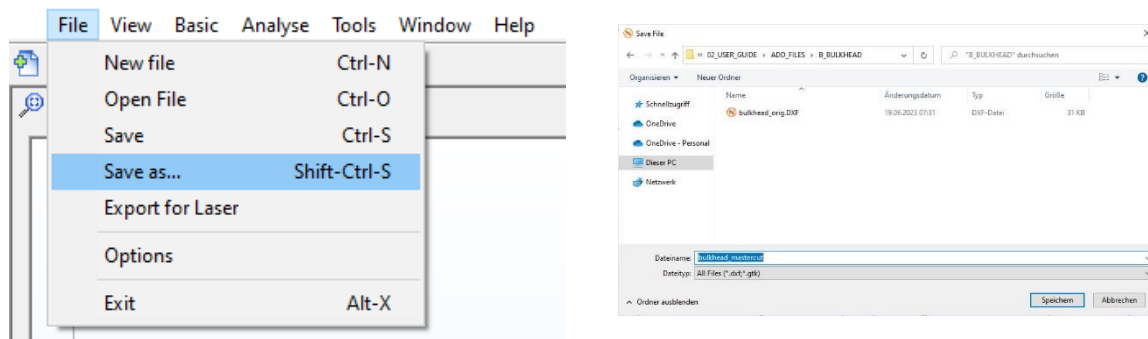

Figure 87
2. **Save as:** Before making any changes save the file with a new name. Therefore click on **[Save as...]** in the File tab (Figure 87 left). Extend the name with “_mastercut” (Figure 87 right) and click on the save button **Speichern**.